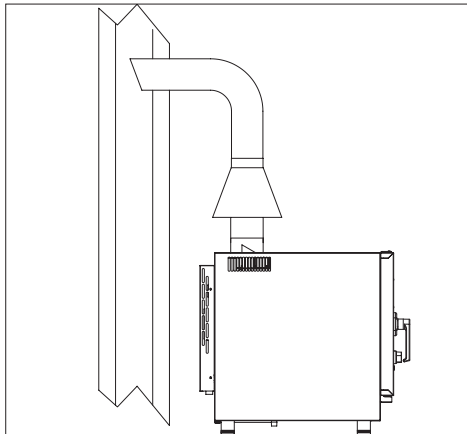

fig. 12
- By connecting the oven to a natural draught flue to discharge combusted gases directly outside (fig. 12). The gas will either be discharged directly outside or through a chimney. Fume discharge must not be obstructed and the length of the discharge tube must not exceed 3 metres.